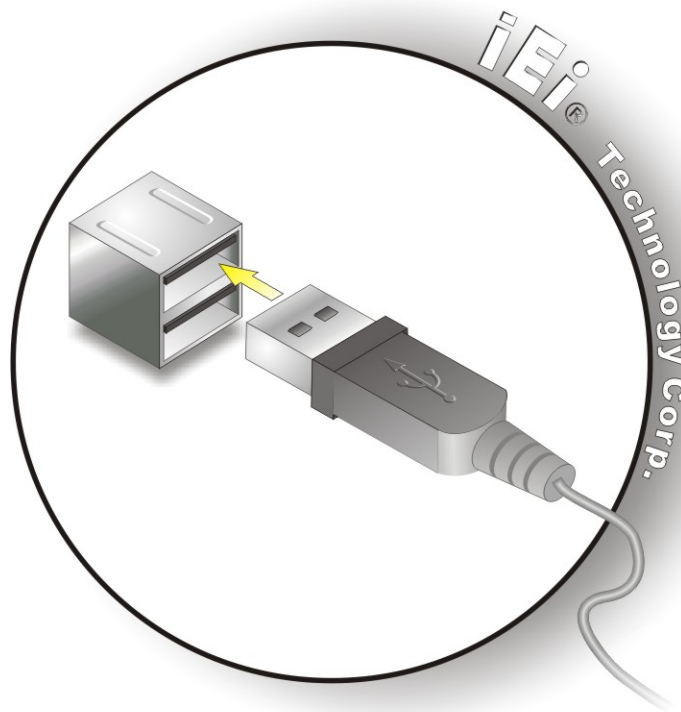

Figure 3-31: USB Device Connection
Step 2: **Align the connectors.** Align the USB device connector with one of the connectors on the AFL2-W15B-H61. See **Figure 3-31**.